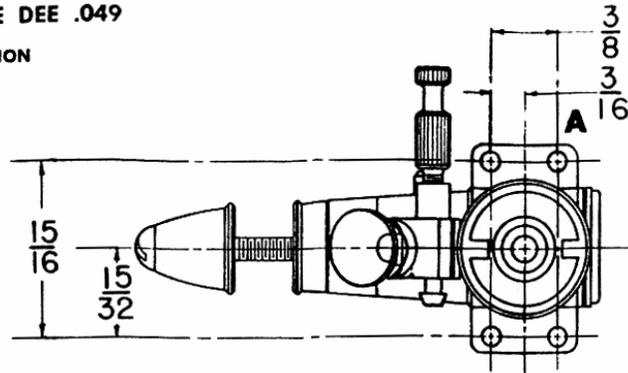

Fig. 1
1. Mount the engine in the plane, or if you want to give it same running first, mount it on a suitable mount. Do not hold the engine directly in a vise. Use A-Fig. 1, or A-Fig. 2 as a template to drill mounting holes.
1. Close the carburetor needle valve, B-Fig. 1, or B-Fig. 2, by turning it clockwise until it stops. Do not force it.